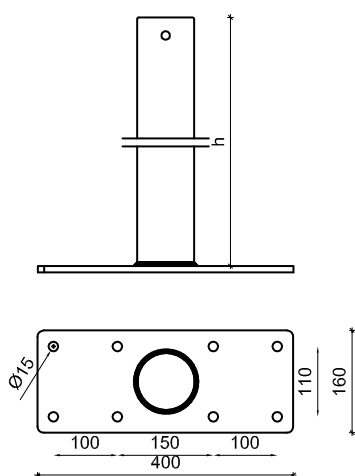

Figure 3.3 - PZL post
- Base size 400x160x10 mm with 8 fixing bores (see Figure 3.3 for the distance between centres)